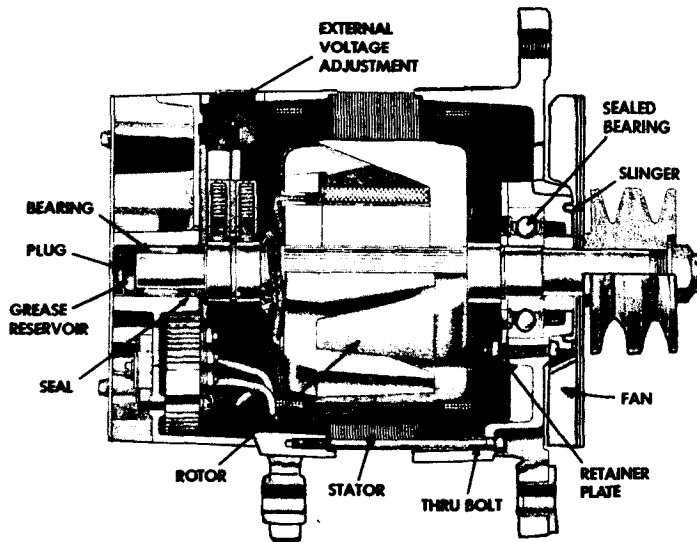

Figure 2—Cross-sectional view typical integral charging system.
1. Remove the bottom plate from the regulator. (Fig. 2)
2. Remove the three panel board attaching screws identified by arrows (Fig. 2), and lift the assembly from the housing.